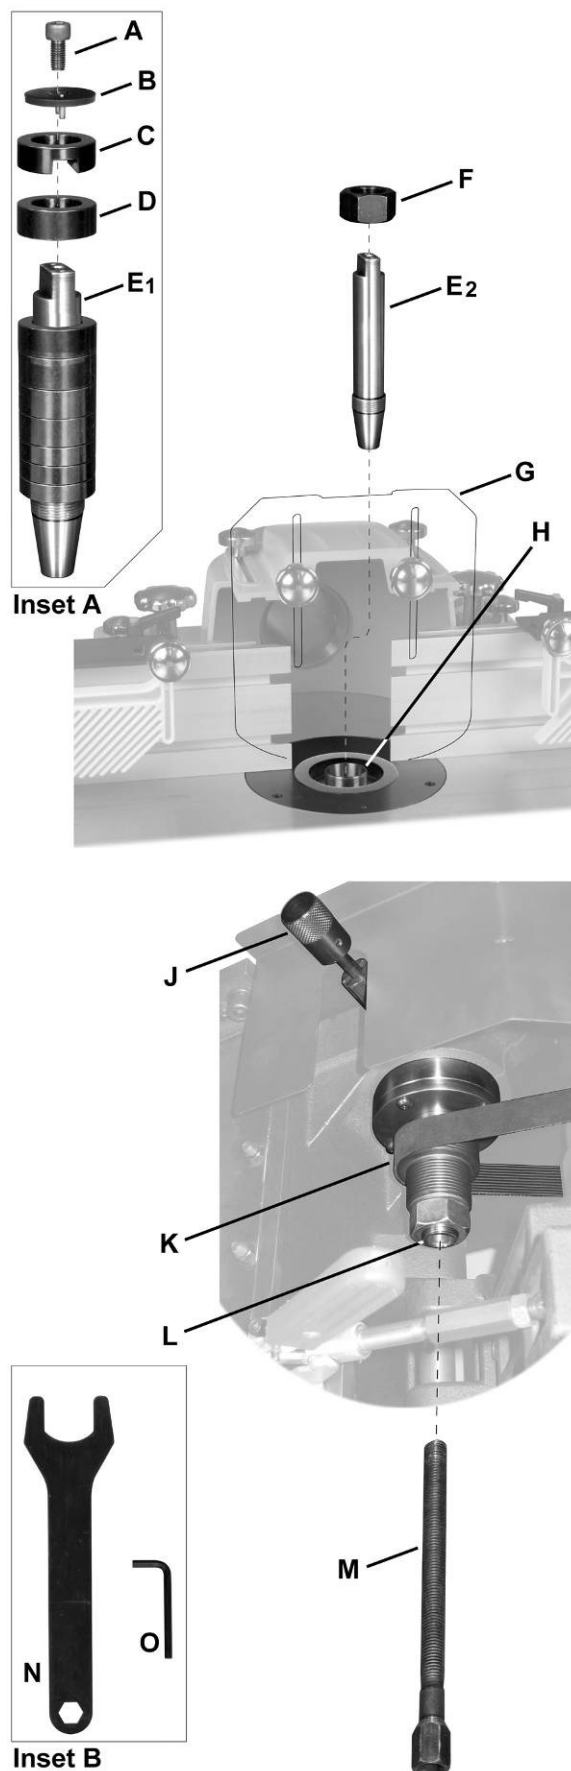
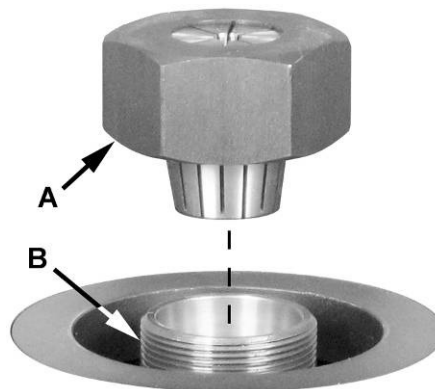

Figure 13
Figure 15
Refer to Figure 13. The *fence guard* (G) has been removed for clarity.
1. Locate the *spindle lock* (J, Fig. 13) accessible through the door on the right side of the cabinet. Pull out and rotate 90° right or left, resetting the knob into the indent.
Attempt to turn the *spindle* (H, Fig. 13) by hand to verify that it is locked and will not rotate.
4. Pull out the *lock knob* (J, Fig. 13) accessible through the door on the right side of the cabinet. Rotate 90° right or left, resetting the knob into the indent.
1. Locate the *lock knob* (J, Fig. 13) accessible through the door on the right side of the cabinet. Pull out and rotate 90° right or left, resetting the knob into the indent.
2. Place the *router collet* (A, Fig. 15) onto the *spindle* (B, Fig. 15) and secure with the *wrench* (N, Fig. 13) provided.
3. Unlock the spindle by pulling out the *lock knob* (J, Fig. 13) accessible through the door on the right side of the cabinet. Rotate 90° right or left, resetting the knob into the indent.
Turn the *router collet* (A, Fig. 15) by hand to verify that it turns freely.